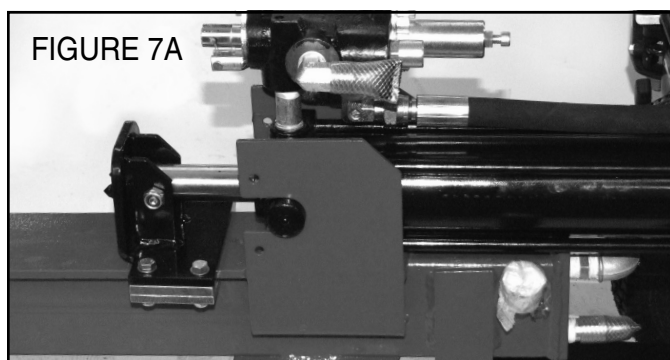

FIGURE 7A
7. **(U.S. Version)** Slide ram assembly to rear bracket and attach with (4) 20mm bolts, locknuts and (2) retainer plates. SEE FIGURES 7A & 7B.